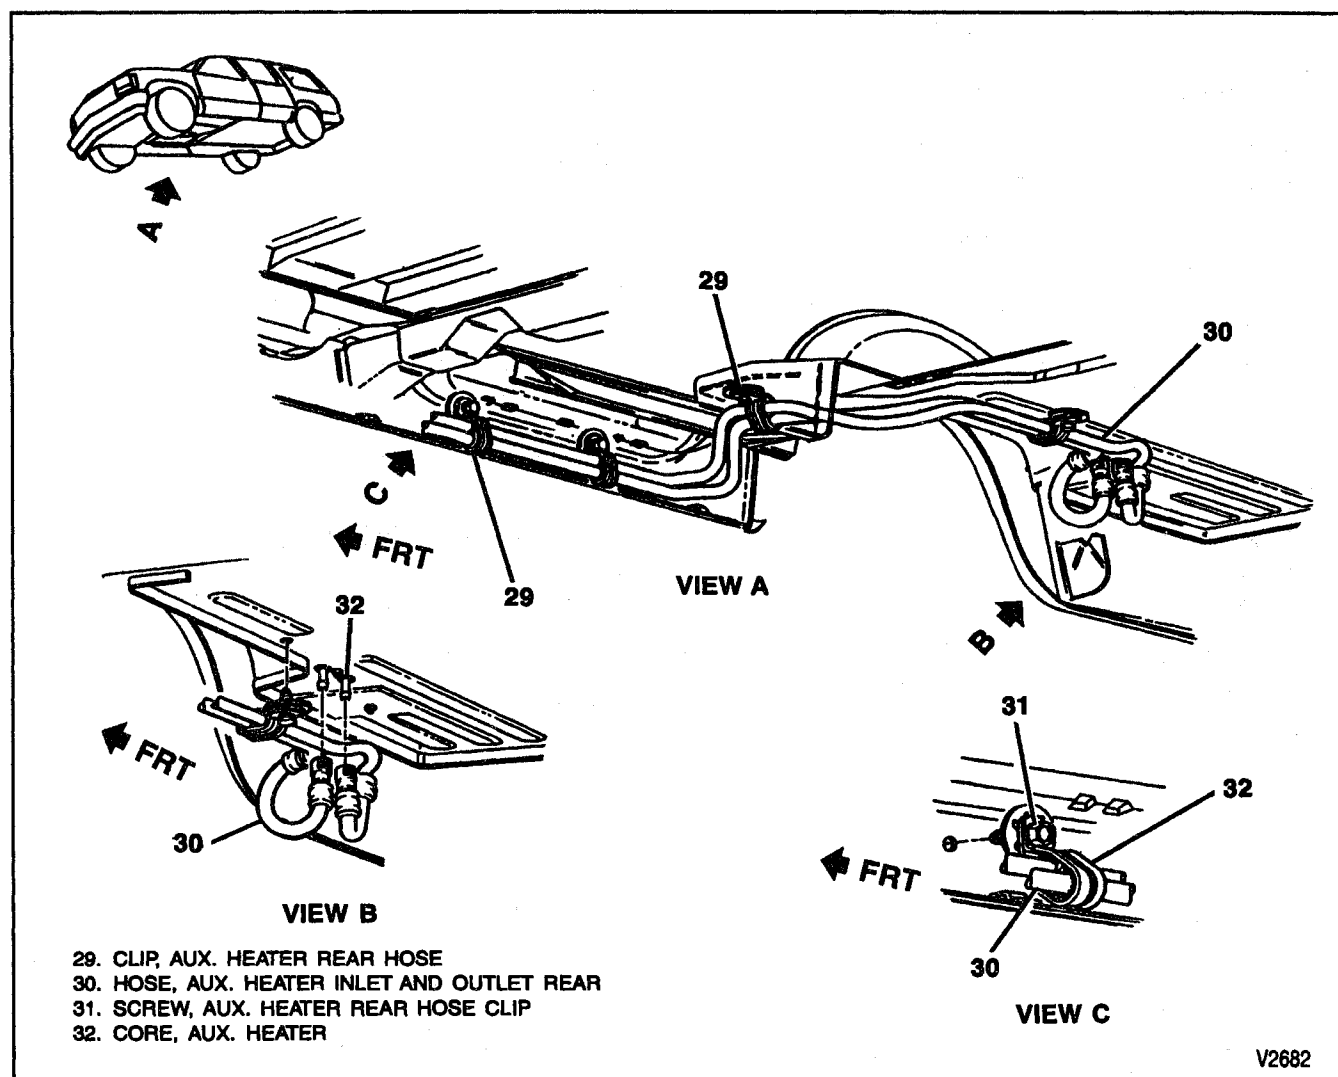

Figure 24—Auxiliary Heater Hose Assembly Routing (Rear)
3. Rear hose assembly from front hose assembly (Figure 24).
1. Rear hose assembly to front hose assembly (Figure 24).